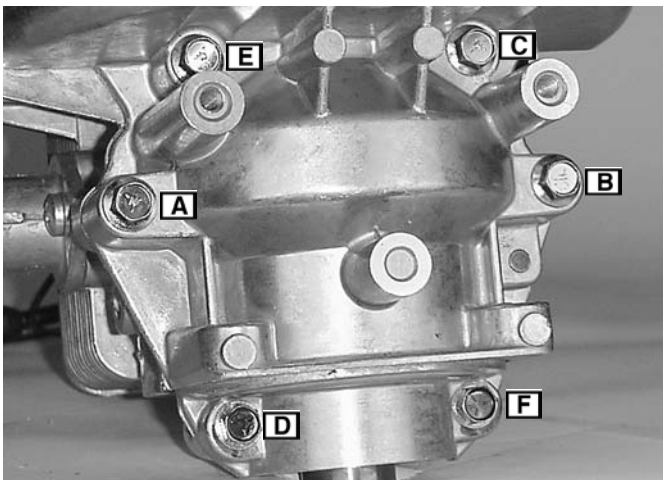

Fig. 72
4. Torque screws in **25 lb-in. (3 Nm) increments** in letter sequence shown to **75 lb-in. (8 Nm)**, figure 72.